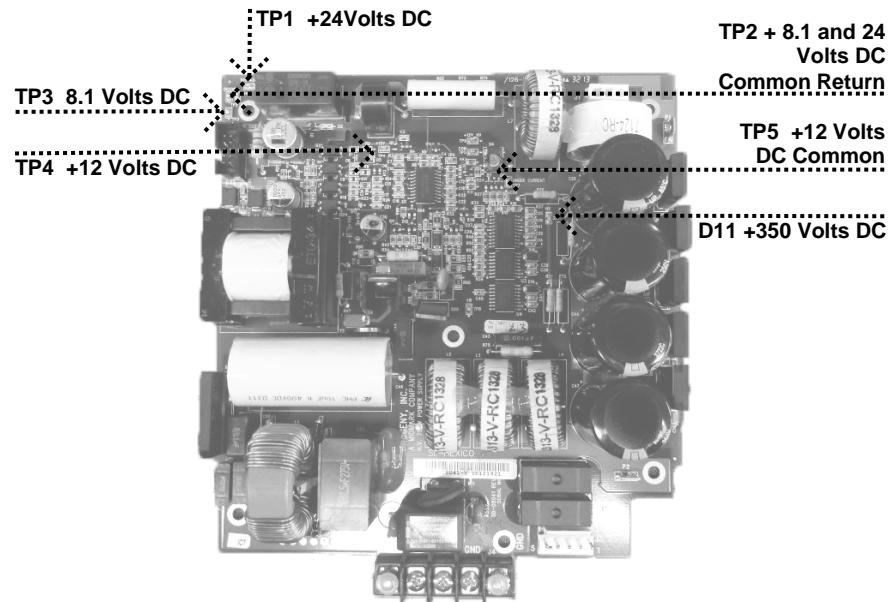
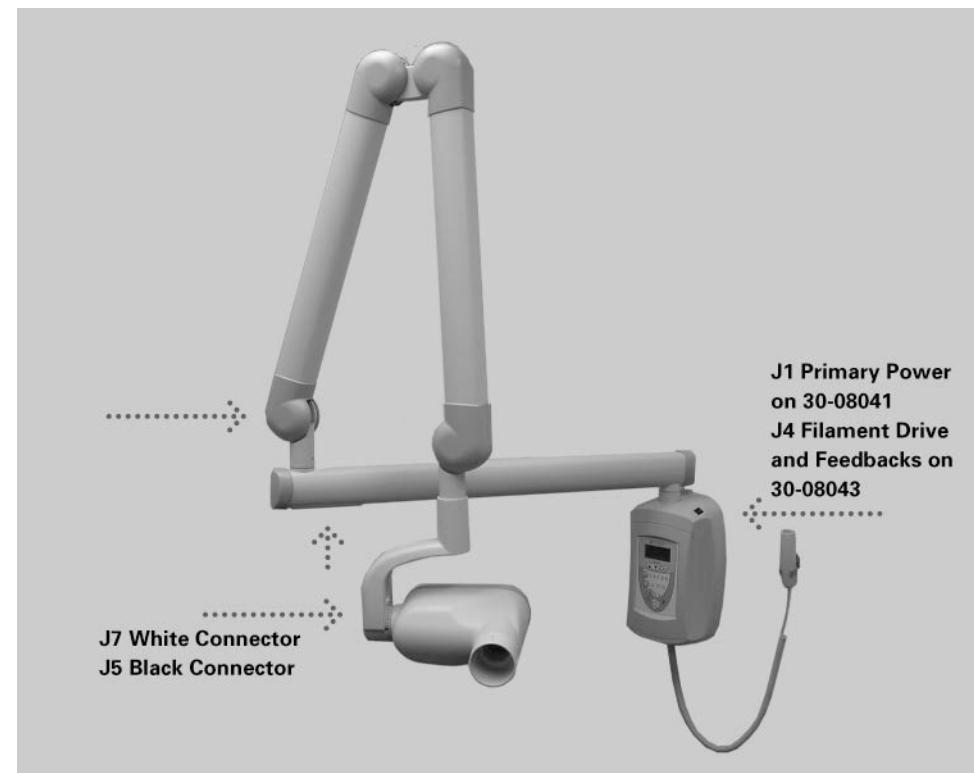

Figure 52
Figure 54
No kV Produced	<ol style="list-style-type: none">1. On the Power Supply Board, observe that the power supply indicator D11 +350volts DC is illuminated, as shown in Figure 52. Illumination represents proper stored energy for an exposure. If this indicator is not illuminated, it will be necessary to replace this board.2. On the Logic Board, measure voltages at TP1 (+8.1V) and TP9 (+24V). Use TP8 or TP10 as Common Return. If any of these voltages are not present after power is applied, next check voltages on the Power Supply Board.3. On the Power Supply Board, use TP2 as a common test point to check TP1 +24 volts DC and TP3 8.1 volts DC. Then use TP5 as the common return to check TP4 for the presence of +12 volts DC, as shown in Figure 52. Should any of these voltages not be present, replace the Power Supply Board. If each voltage is present, check other voltages on the Logic Board.4. On the Logic Board, measure between TP8 or TP10, the Common Return and, TP6, kV Program. This voltage should be between 3 and 4 volts DC. If this voltage is not present, replace the Logic Board. If this voltage is correct, inspect the condition of the ribbon cable between the Power Supply Board and the Logic Board. If the cable is undamaged and seated properly, replace the Logic Board.5. Check the condition of the cables between the Control Unit and the Tubehead assembly. If no X-ray occurs and no errors are displayed, the problem may lie within the conductors of the white connector (which is primary power to the Tubehead Assembly). If no X-ray occurs and the attempt is accompanied by a "snap" sound, the problem may lie with the conductors of the black connector (which is transmitting the feedback signals). Connections for this cable begin with controls at J1 of the Power Supply Board and J3 of the Logic Board. As shown in Figure 54, an internal set of connections will be accessed below the distal side of the horizontal arm and at the inside top of the Tubehead Yoke. The final set of connections is accessed by removing the Pivot Cap located at the attachment point of the Tubehead to the Yoke.6. If D11 on the Power Supply Board is illuminated, power supplies are in order, and the cable connections are correct, place an AC voltmeter across the Tubehead connector J1 (white connector) on the black and white conductors, request an exposure time of at least 1.5 seconds, and measure the resulting voltage during the exposure. Presence of 130 volts AC will require the replacement of the Tubehead Assembly. Absence of 130 volts AC will require re-inspection of the interconnect cables for open conductors.
5. If these voltages are present, measure for the same values at the Tubehead Assembly at the connector J5 (black) on the blue and gray conductors and the blue and brown conductors. If the voltages are not present, inspect the inter-connect cables between the control and Tubehead Assembly. Connections for this cable begin with controls at J1 of the Power Supply Board and J3 of the Logic Board. As shown in *Figure 54*, an internal set of connections will be accessed below the distal side of the horizontal arm and at the inside top of the Tubehead Yoke. The final set of connections is accessed by removing the Pivot Cap located at the attachment point of the Tubehead to the Yoke.
Of particular importance are the conductors held by the black connectors. These conductors transmit the feedback values from the Tubehead Assembly and directly affect the control of power to the Tubehead Assembly. Connections for this cable begin with controls at J1 of the Power Supply Board and J4 of the Logic Board. As shown in *Figure 54*, an internal set of connections will be accessed below the distal side of the horizontal arm and at the inside top of the Tubehead Yoke. The final set of connections is accessed by removing the Pivot Cap located at the attachment point of the Tubehead to the Yoke.